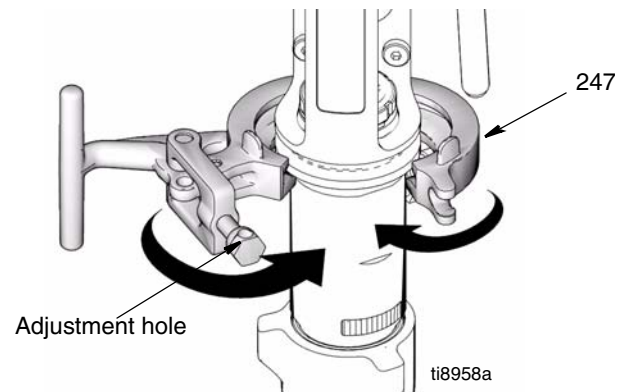

FIG. 22
3. (Fig. 22) Close clamp (247) around pump (111) and push it closed.